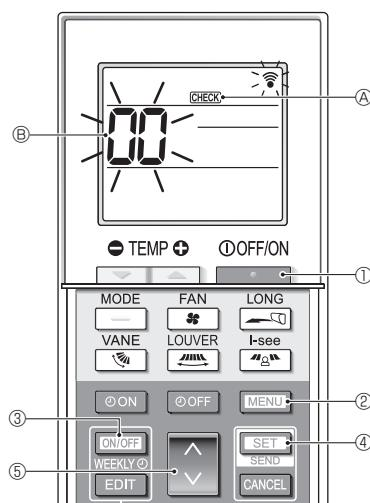

Fig. 7-6
7.3.2. Wireless remote controller (Fig. 7-6)
- Press the [] button ① to stop the air conditioner.
- If the weekly timer is enabled (WEEKLY is on), press the [ON/OFF] button ③ to disable it (WEEKLY is off).
- Press the [MENU] button ② for 5 seconds.
- CHECK ② comes on and the unit enters the self-check mode.
- Press the [] button ⑤ to select the refrigerant address (M-NET address) ⑧ of the indoor unit for which you want to perform the self-check.
- Press the [SET] button ④.
- Press the [] button ①.
- CHECK ② and the refrigerant address (M-NET address) ⑧ go off and the self-check is completed.